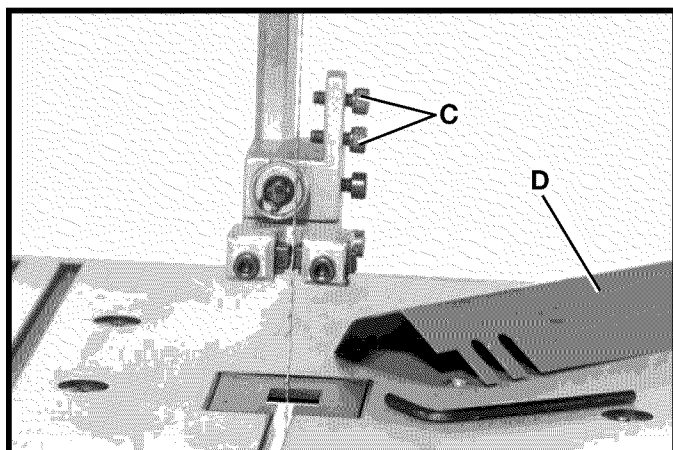

Fig. 40
3. Loosen two screws (C) Fig. 40, and remove blade guard (D).